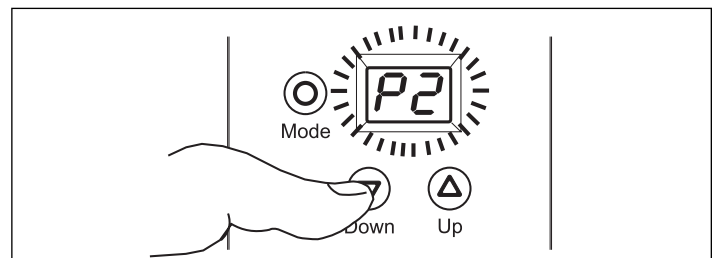

Figure 12
3. Use the Up or Down button to change the FloodBreaker's current position. P1 is the open position and P2 is the closed position (Figure 12).